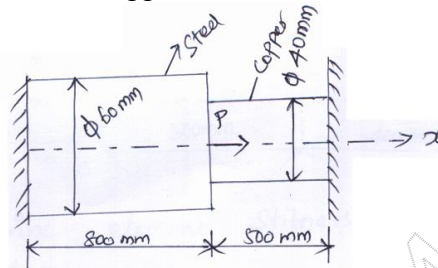

Fig. Q5 (a)
- 5 a. Consider the bar shown in Fig. Q5 (a), using Penalty method of handling boundary condition. Determine the nodal displacement stress in each element. Due to applied force $P = 100 \text{ kN}$. Take steel $E = 200 \text{ GPa}$ copper $E_{CV} = 100 \text{ GPa}$.